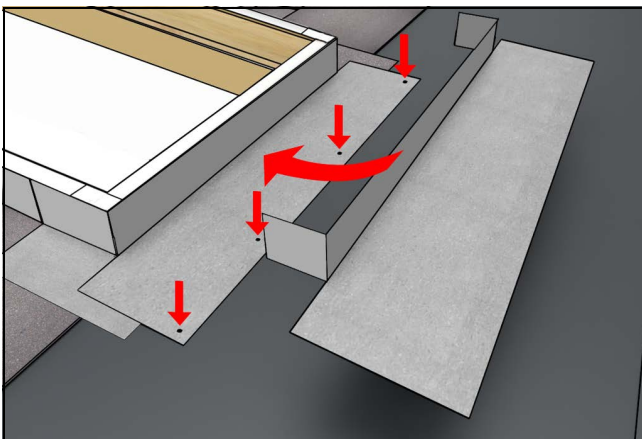

Figure 40
**10.** Head jamb saddle centered installed with tabs bent around jamb step flashing. See Figure 40.